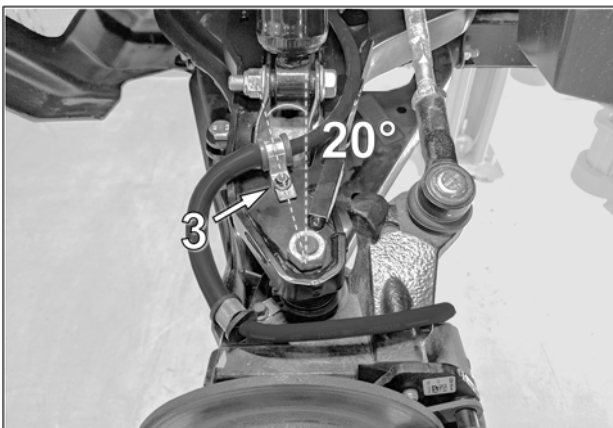

Fig. 24
12. Position hose clamp at a 20-degree angle from the original OEM position and reinstall hose clamp bolt (3). See Fig. 24.